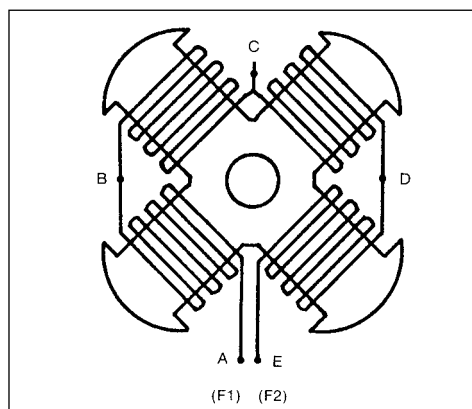

Figure 8-1
Step 3: Measure and record voltages across each pole. Between points “A” and “B”, “B” and “C”, “C” and “D”, and “D” and “E” (figure 8-1).